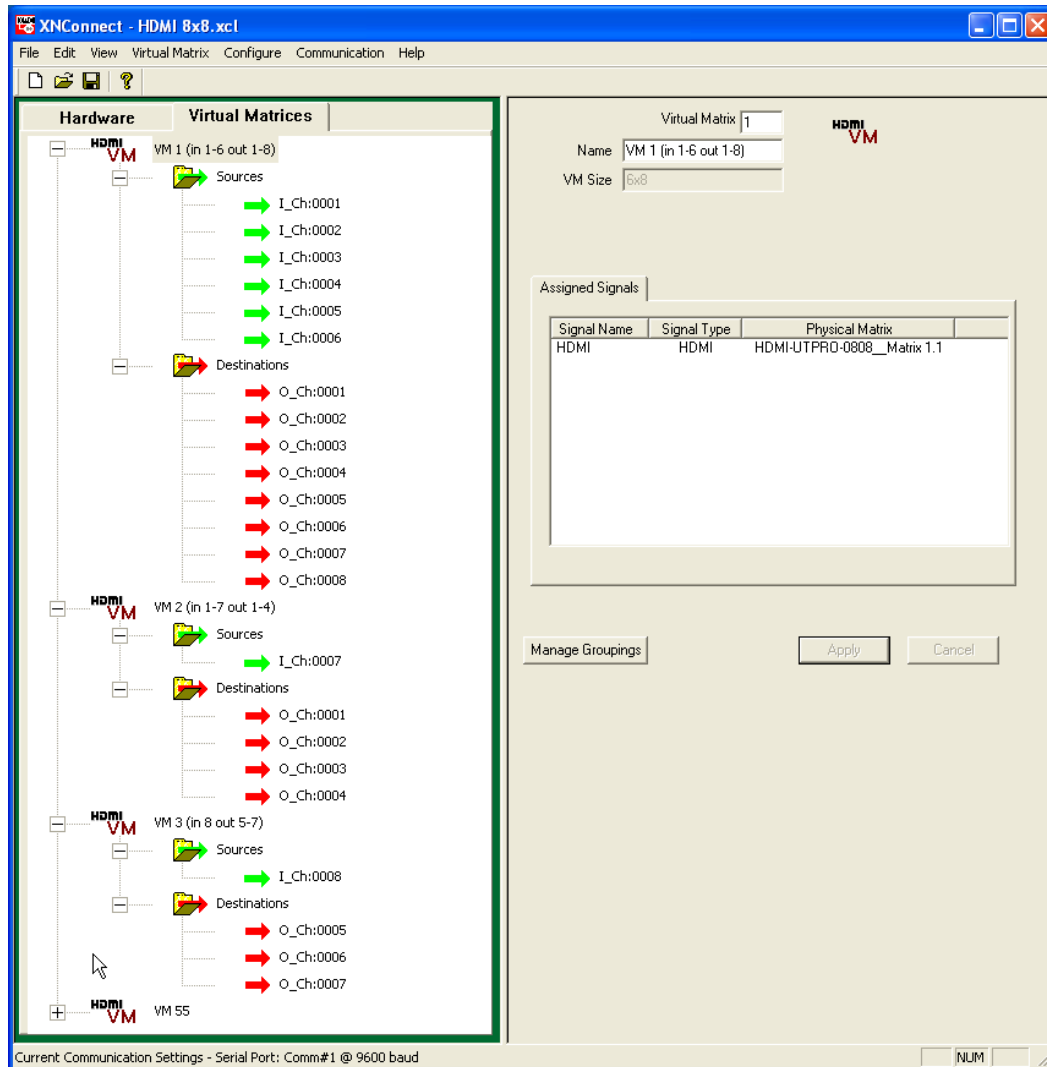

FIG. 79 Virtual Matrices created for example
22. Repeat Steps 3 through 21 for VM 2 and again for VM 3. See FIG. 79 on the next page for results.
The three VMs created for the example on page 119 using the previous procedure are illustrated in FIG. 79 below. (Note that VM 55 at the bottom of the VM list was the original VM 0 discovered on the system and renamed for possible reuse later.)